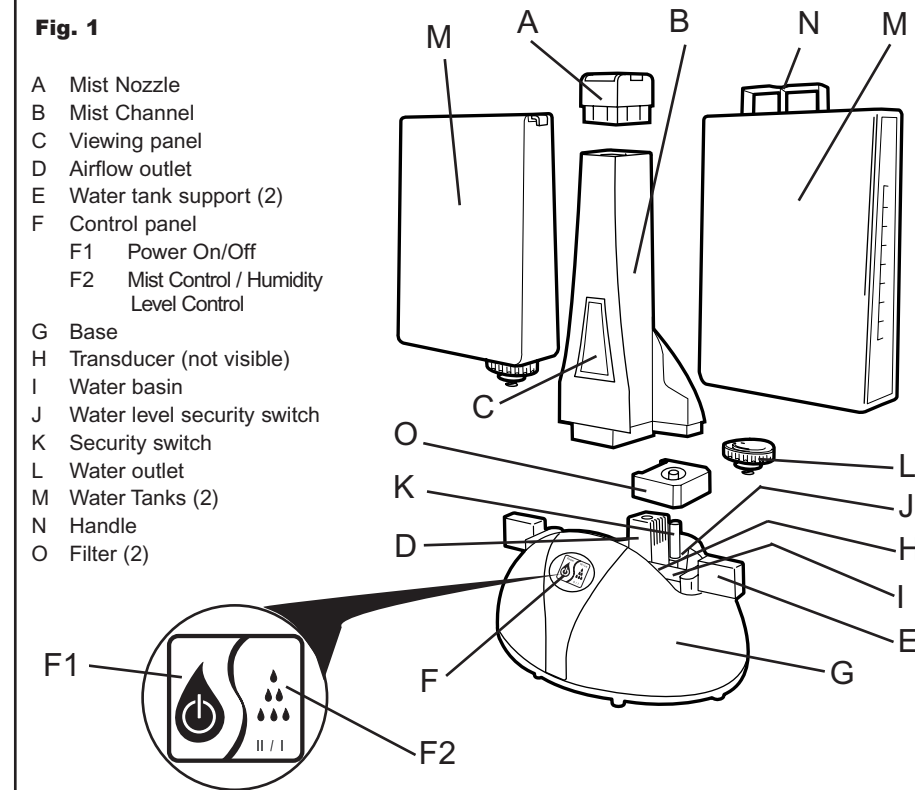

Fig. 2
3. Position Mist Channel (B) over Base (G), carefully locate into base, (see Fig 2).
4. Insert the Mist Nozzle (A) onto the Mist channel (B), (see Fig. 2).